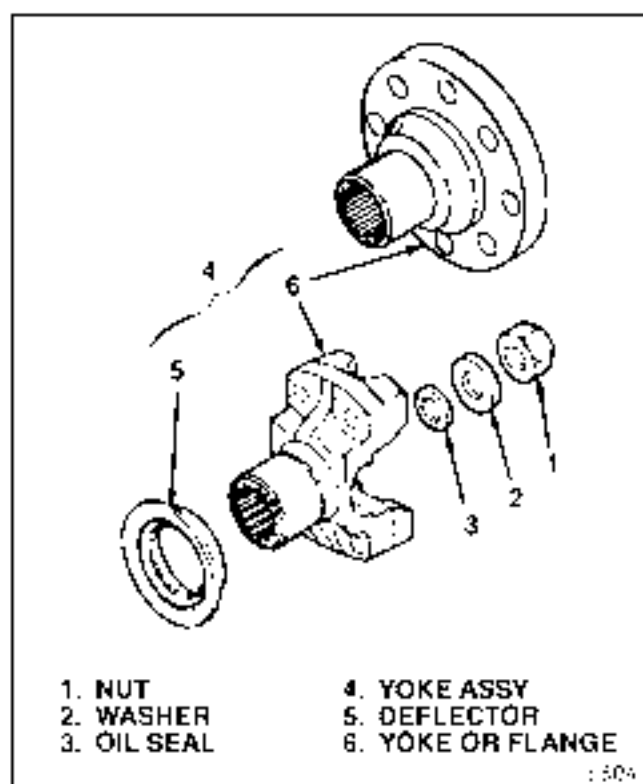

Figure 5-29. Rear Yoke Group
**5-10. INSTALLING REAR YOKE OR FLANGE GROUP.** To assembly as completed thus far (7 through 11); install parts as follow - (see figure 5-29).
- a. If removed, press deflector (5) onto yoke or flange (6).
- b. Install yoke or flange assembly (4), oil seal (3), washer (2) and nut (1).
- c. Hold yoke or flange with torque bar T-13-56-002 and torque nut (4) to 106-150 lb-ft (136-203 Nm).